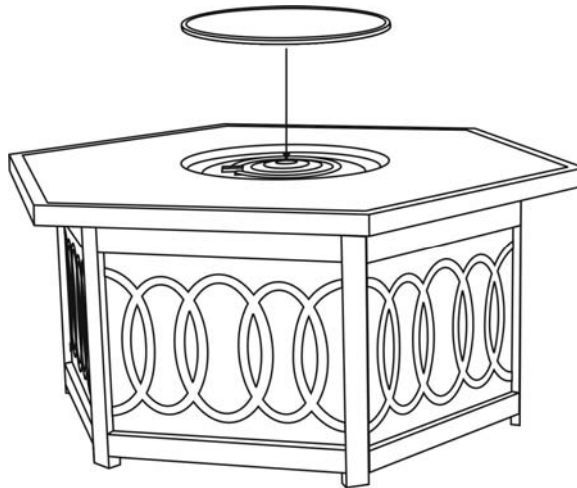

Figure 13
1. Place the lazy susan / burner cover on the table top as shown in Figure.13.